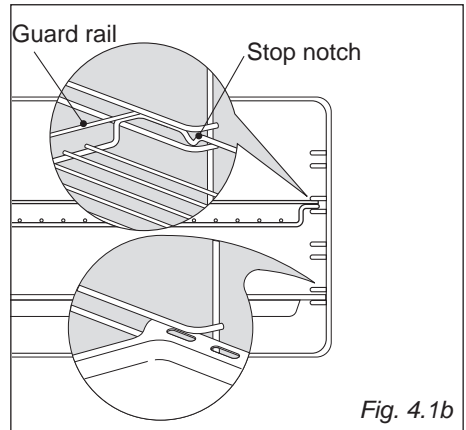

Fig. 4.1b
- Slide in, on the guides, the shelf and the tray (fig. 4.1b).